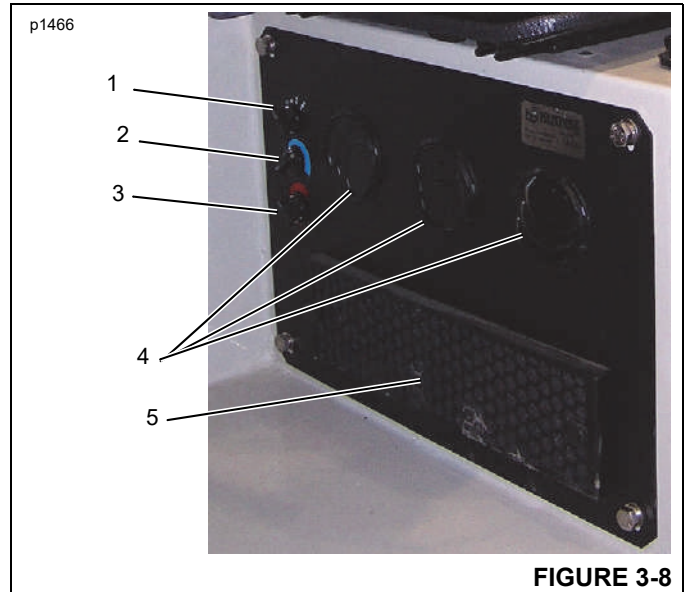

FIGURE 3-8
The Fan Switch (1) (Figure 3-8) is a four-position switch which controls the speed of the fan.